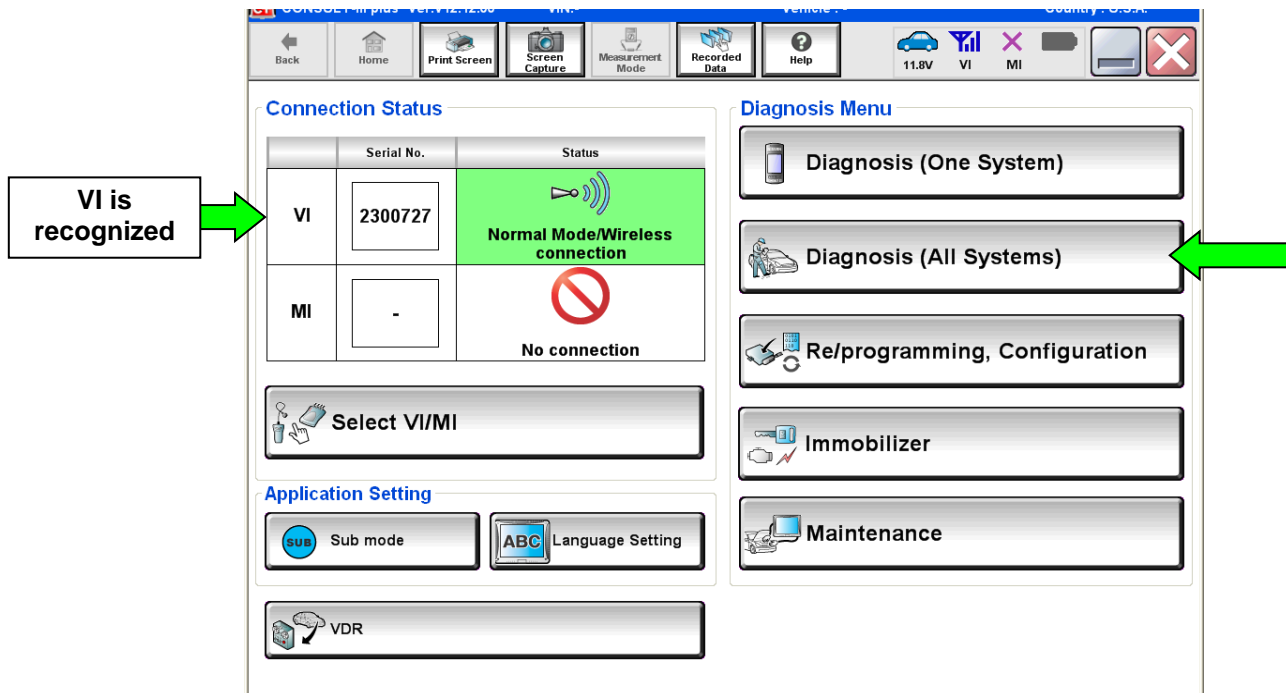

Figure 7
22. Select **Home** to return to the screen shown in Figure 7 on page 5.